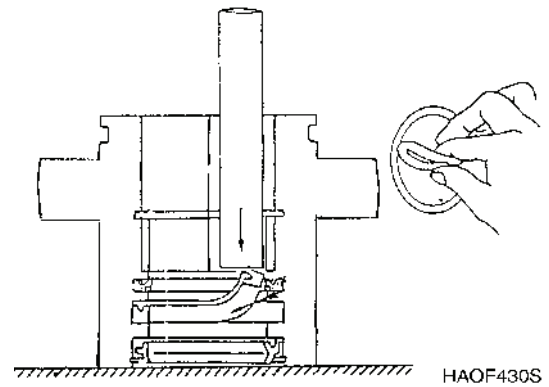

Figure 31
3. Prelubricate O-rings and seals before reassembly (Figure 31).